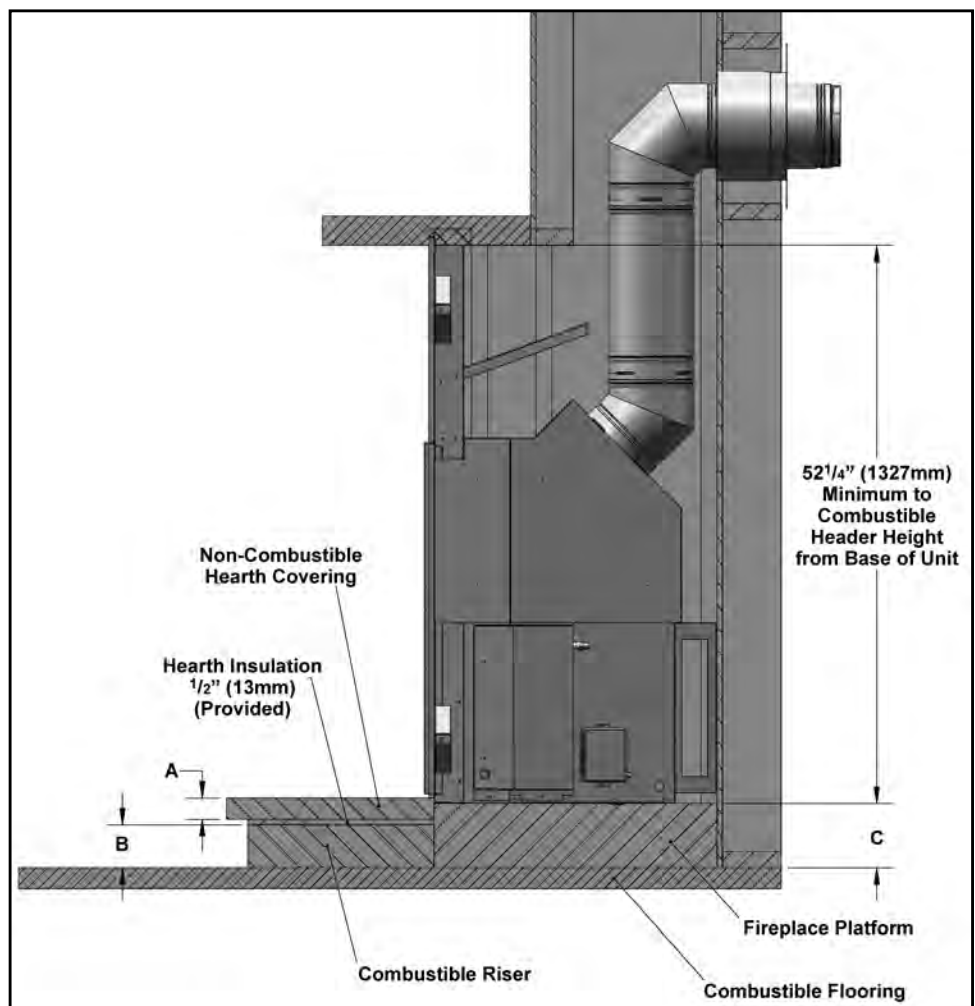

Figure 14. Typical Framing for a Raised Hearth - Detailed.
Figure 14 shows a raised hearth made of a wooden construction hearth riser (B), covered with the insulation board provided and then covered with non-combustible slate (A). The thickness of the riser (B) is 4" (102mm). The thickness of the slate (A) is 2" (52mm). $A+B=C$ which is 6" (152mm). In summary, the fireplace must be raised by the same thickness of any material added in front of the fireplace, with exception of the $\frac{1}{2}$ " (13mm) Hearth Insulation Board that was provided with the unit.